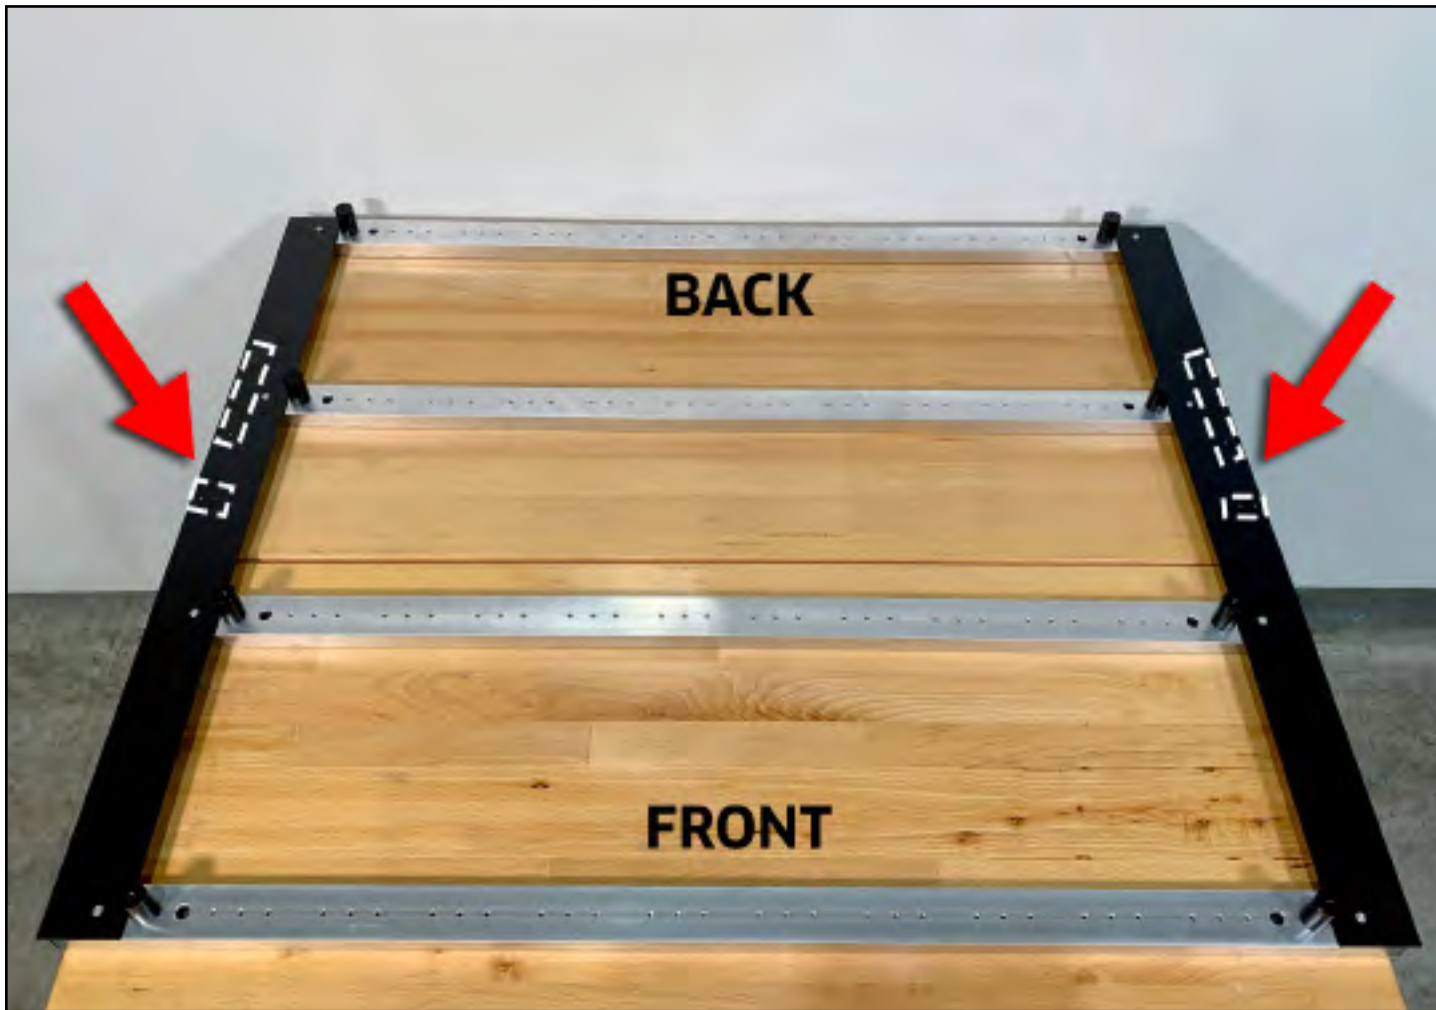

Figure 1-2
4. Repeat steps 1–3 to install the three (3) remaining standoffs.
5. Position the four crossmembers horizontally across your table. See **Fig. 1-2**.
7. Position the two support panels, face up, front to back, across the outside edges of the four crossmembers. See **Figs. 1-2** and **1-3**.
1. Use a 4mm hex key and eight (8) M6×6mm BHCS to loosely attach the support panels to the crossmembers. See **Figs. 1-2** and **1-3**.